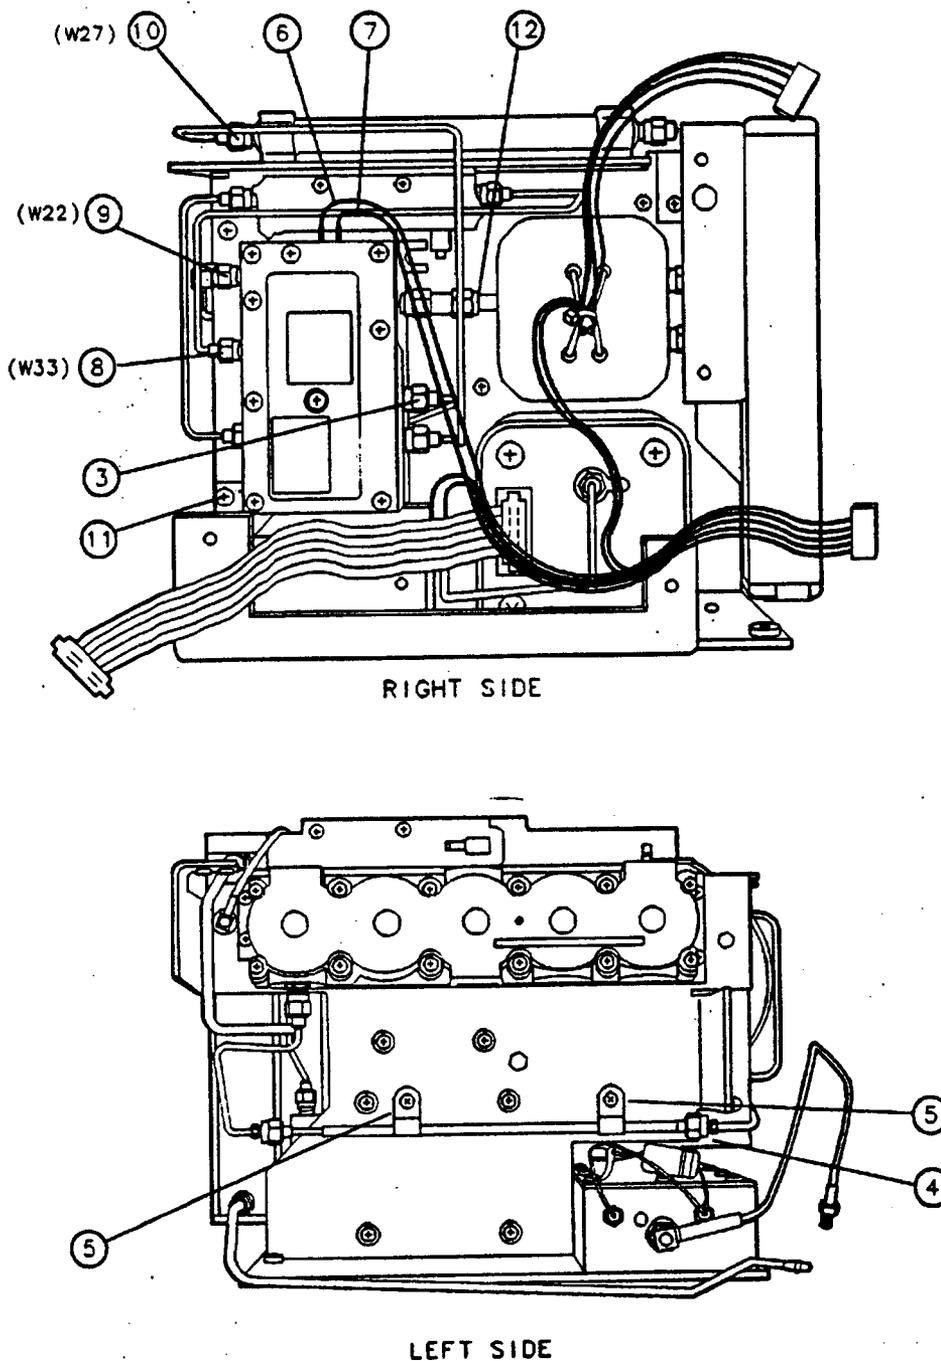

Figure 3-20. A3A6 Dual Mixer Replacement, Right and Left-Side Views
6. Loosen, but do not disconnect, the W29 semirigid cable (3) from A3A6J2 on the dual mixer. See Figure 3-20.
5. Insert the dual mixer into the A3 Front-End Assembly. Carefully route the end of the W29 semirigid cable around to the "B" side of the front-end assembly. See Figure 3-20.
6. Hold the dual mixer in position and connect the SMA adapter at A3A2J2 (12) on the YTF assembly without tightening. See Figure 3-20.
7. Install the screw and washer (11) that secure the dual mixer to the standoff on the "A" bracket without tightening.
8. Torque the SMA connector at A3A2J2 (12) to 10 inch-pounds.
9. Tighten the screw (11) that secures the dual mixer to the standoff on the "A" bracket.
10. Connect the W27 semirigid cable (10) to the A3A3 Low-Pass Filter and tighten to 10 inch-pounds using a 5/16 inch torque wrench.
11. Connect the W22 coaxial cable (9) to A3A6J5 on the dual mixer and tighten to 10 inch-pounds using a 5/16 inch torque wrench.
12. Connect the W33 semirigid cable (8) to A3A6J4 on the dual mixer and tighten to 10 inch-pounds using a 5/16 inch torque wrench.
14. Connect the blue wire (6) and the green wire (7) to the dual mixer, using needle-nose pliers.